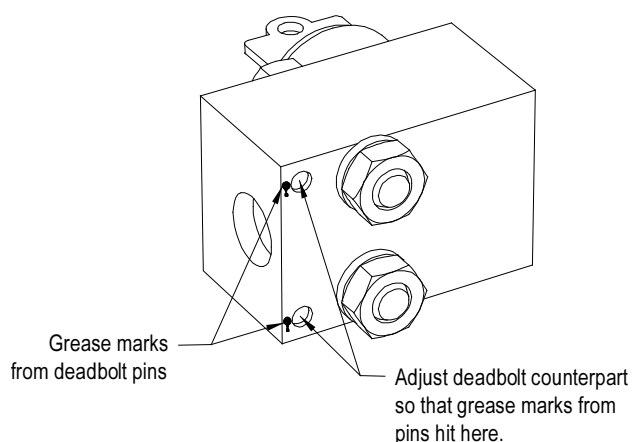

Figure 4.1 – Deadbolt Assembly Mounted to Door
3. Open the doors of the cabinet and inspect the key assembly. Place high visibility grease on the pins of the deadbolt counterpart. The factory recommends using yellow torque sealant, however if it is unavailable almost any grease will do. (See Figure 4.1)